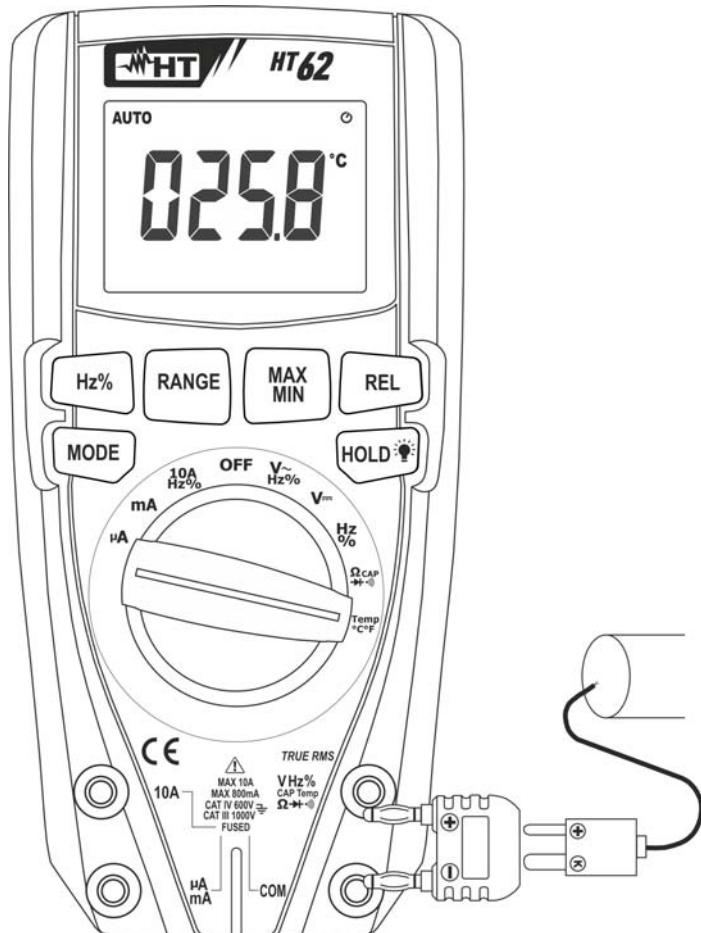

Fig. 8: Use of the instrument for Temperature measurement
3. Insert the provided adapter into input terminals **VHz%CAPTempΩ►+/-** (polarity +) and **COM** (polarity -) (see Fig. 8)